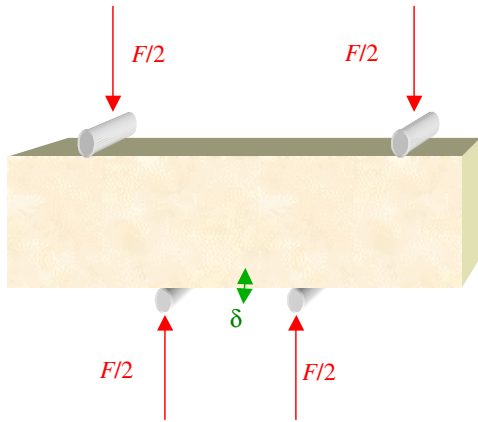
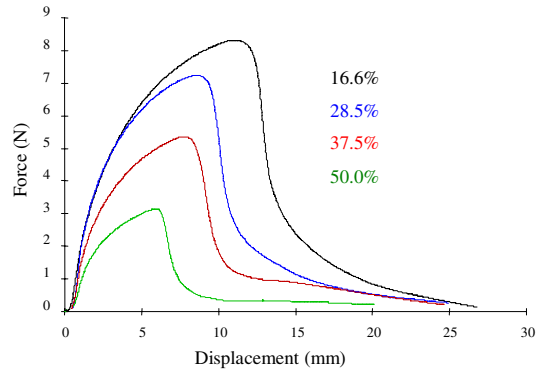

Figure 7. Schematic diagram of the four-point bend test.
Figure 8. Force–displacement curves from the four-point bend test for ice cream samples with air volume fractions from 16.6% to 50.0%.
Four bars hold a standard size block of ice cream as shown in figure 7. The top two are fixed, while the bottom two are slowly moved upwards. The force (F) required to move them is measured and plotted against the resulting displacement (δ). Figure 8 shows a series of such curves for four ice cream samples that contain a range of different volume fractions of air from 16.6% to 50.0%.
All the curves have the same shape, but the initial slope, the maximum force and displacement increase as the volume fraction of air is reduced. The initial slope is directly related to the Young's modulus (through the dimensions of the sample). It is clear that reducing the air content makes the ice cream much harder. Other mechanical properties can be related to textures—for example, the work of fracture (i.e. the area under the curve in figure 8) relates to the 'chewiness'. So the next time you